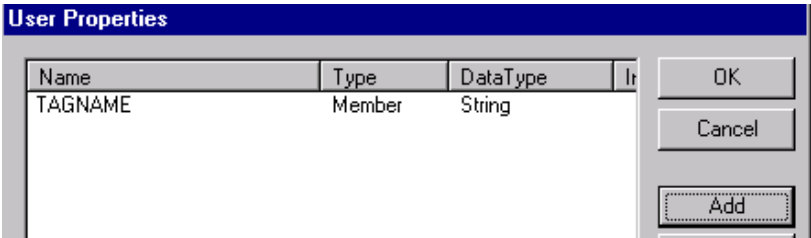

Figure 143. User Properties Defined
- e. Click **OK**. This closes the Create New Property dialog and returns focus to the User Properties dialog, with property definitions as you entered them, Figure 143.